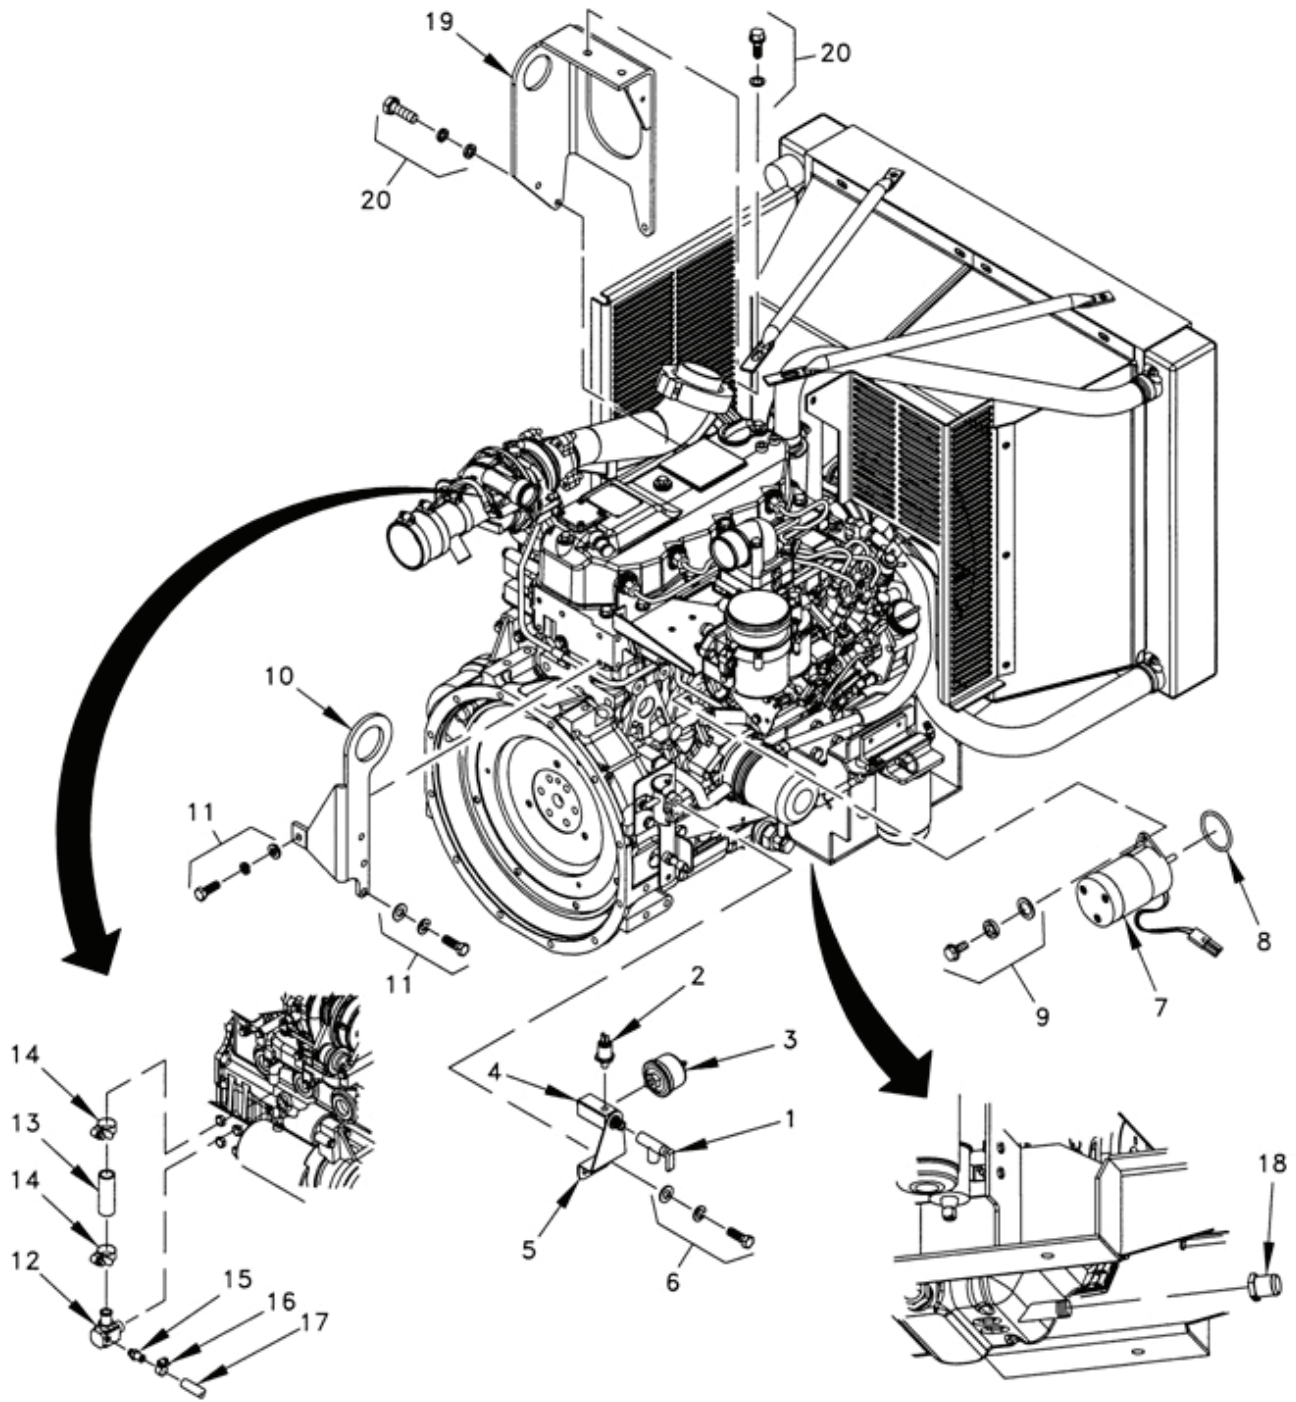

Figure 3-19. Engine Components – MEP-804B/MEP-814B.
- (1) Oil sample valve (1, Figure 3-19), low oil pressure switch (2), oil pressure sender (3), fitting assembly (4), bracket (5), and mounting hardware (6).
- (3) Intake air heater contactor (15), mounting hardware (12, 13, and 14), contactor bracket (19), and bracket mounting hardware (16, 17, and 18).
- (4) Governor actuator (7, Figure 3-19) O-ring (8) and mounting hardware (9). Inspect and replace O-ring, as required.
- (6) Rear lift ring (10, Figure 3-19) and mounting hardware (11).
- (8) Oil drain adapter (18, Figure 3-19).
- (9) Upper radiator support (19) and mounting hardware (20).